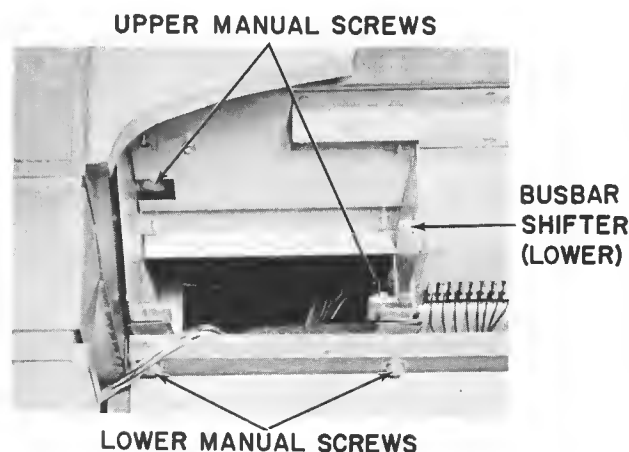

Figure 3-2. Location of Upper Manual Attaching Screws, Left Front
- Remove two 1/4-20 hexagon head screws from underneath manual at left end (Figure 3-2).